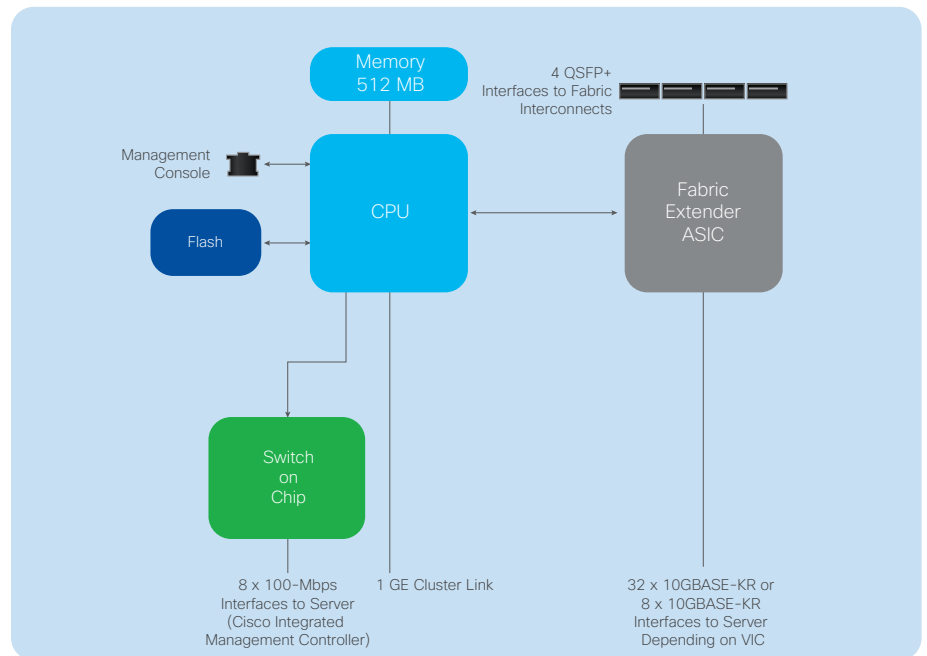

Figure 6. Cisco UCS 6332-16UP Fabric Interconnect Block-Level Architecture
- **Cisco UCS 2304 Fabric Extender:** For blade chassis, the Cisco UCS 2304 provides 160 Gbps of bandwidth to each of the two fabrics in a Cisco UCS 5108 Blade Server Chassis, for up to 320 Gbps of bandwidth. Each fabric extender provides eight 40-Gbps server links and four 40-Gbps SFP+ uplinks to the fabric interconnects (Figure 6). Server links are supported by multiple 10GBASE-KR connections across the blade chassis midplane. These connections are combined into 40-Gbps links when Cisco UCS VIC 1340s are used with the optional Port Expander Card, or left as 10-Gbps links otherwise. In addition to extending the network to blade servers, the fabric extender contains logic that extends the management network from Cisco UCS Manager into each server's Cisco integrated management console.